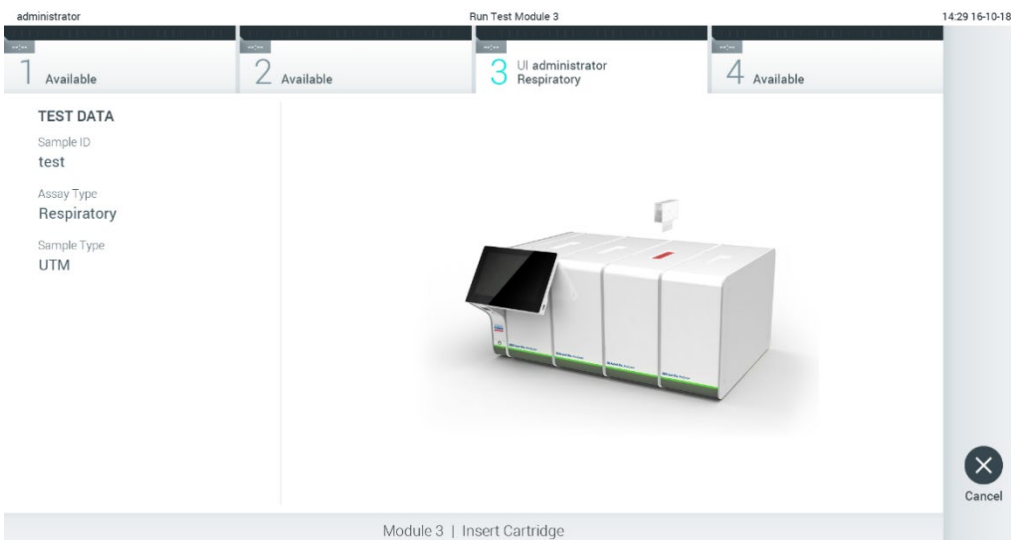

Figure 27. Inserting QIAstat-Dx assay cartridge into QIAstat-Dx Analyzer 1.0.
7. Make sure that both sample lids of the swab port and main port of the QIAstat-Dx assay cartridge are firmly closed. When the cartridge entrance port on the top of the QIAstat-Dx Analyzer 1.0 automatically opens, insert the QIAstat-Dx assay cartridge with the bar code facing to the left and the reaction chambers facing down (Figure 27).